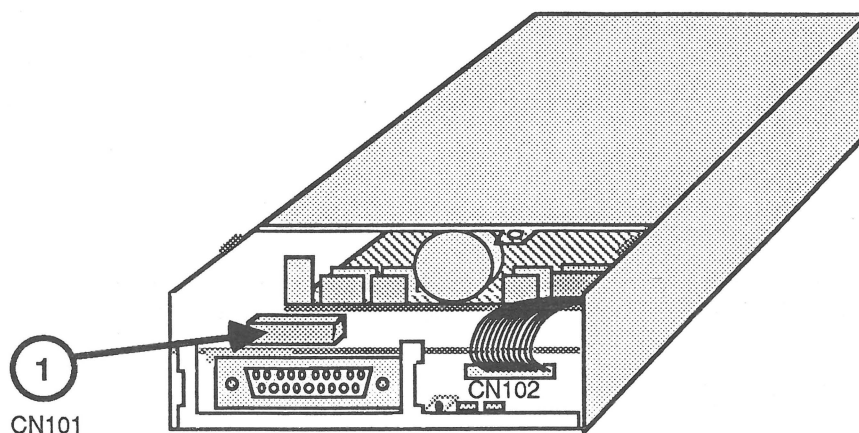

FIGURE 5
3. Disconnect the external drive cable from CN101 on the drive assembly (Figure 5, #1).
3. Connect the external drive cable to CN101 on the drive assembly (Figure 5, #1).